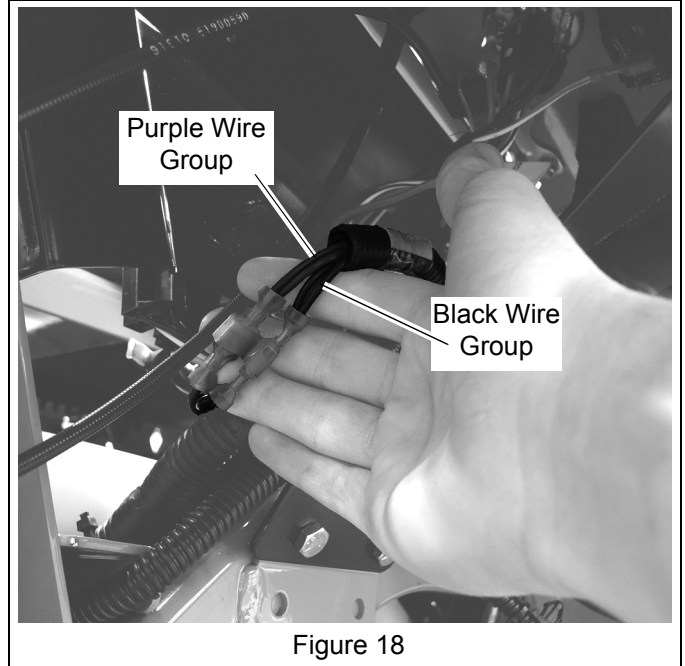

Figure 18
22. Connect purple and black wire groups to auxiliary ports on factory wire harness. See Figure 18.